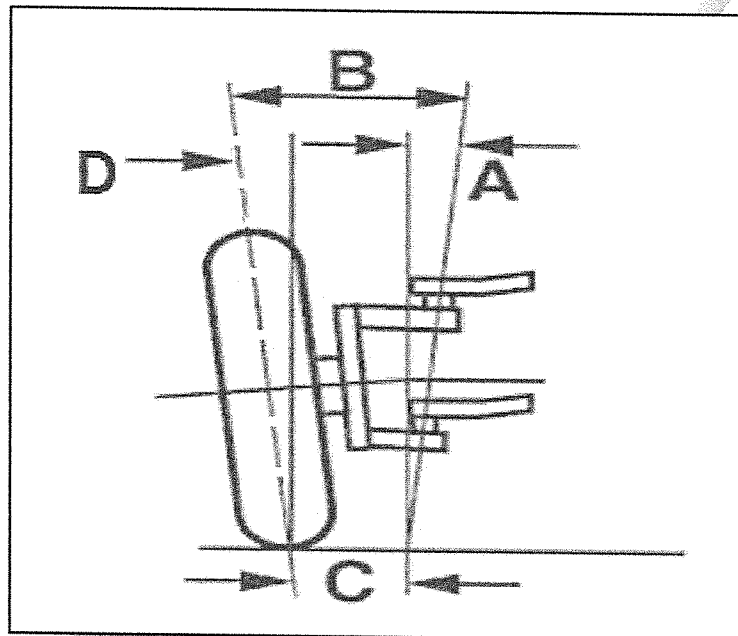

FIGURE 4
4.2 FIGURE 4 shows the front wheel of a truck in contact with the road surface.
4.3 Name the type of front axle as shown in FIGURE 4. (4)
4.4 Explain briefly how the castor angle can be altered on the type of front axle shown in FIGURE 4. (1)
4.5 State how the camber angle can be altered on the type of front axle shown in FIGURE 4. (2)